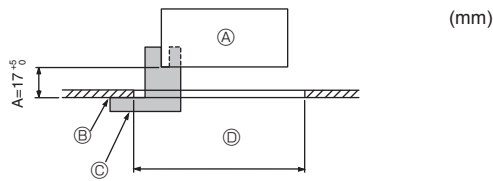
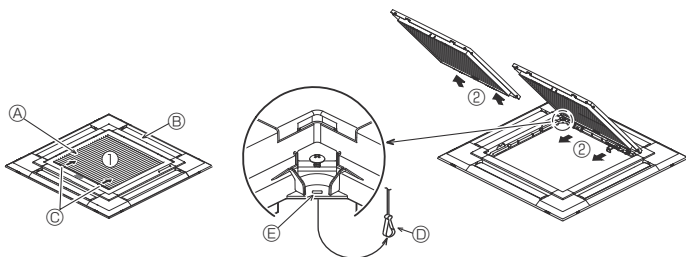
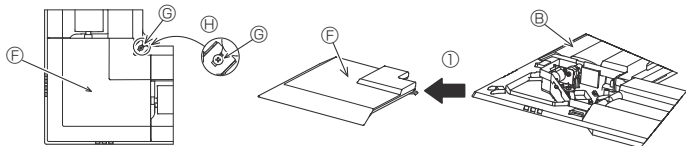

Fig. 7-2
Fig. 7-3
Fig. 7-4
①	Grille	1	950 × 950 (mm)
②	Installation gauge	1	(Divided into 4 parts)
③	Screw (4 × 16)	1	For PLP-6EAE, PLP-6EAE, PLP-6EALME
④	i-see Sensor corner panel	1	For PLP-6EAE, PLP-6EAE, PLP-6EALME
⑤	Wireless remote controller	1	For PLP-6EALM, PLP-6EALME
⑥	Remote controller holder	1	Included when equipped with the wire-less remote controller.
⑦	LR6 AA batteries	2	Included when equipped with the wire-less remote controller.
⑧	3.5 × 16 tapping screws	2	Included when equipped with the wire-less remote controller.
7.2. Preparing to attach the grille (Fig. 7-2)
- With the gauge ② supplied with this kit, adjust and check the positioning of the main unit relative to the ceiling surface. If the main unit is not properly positioned relative to the ceiling surface, it may allow air leaks or cause condensation to collect.
- ① Main unit
- ② Ceiling surface
- ③ Installation gauge ② (inserted into the main unit)
- ④ Ceiling opening dimensions
7.2.1. Removing the intake grille (Fig. 7-3)
- Slide the levers in the direction indicated by the arrows ① to open the intake grille.
- With the intake grille in the "open" position, remove the hinge of the intake grille from the grille as indicated by the arrows ②.
7.2.2. Removing the corner panel (Fig. 7-4)
- Loose the 4 screws on the corner. Slide the corner panel in the direction of the arrow ① in the figure and remove the corner panel.
[Fig. 7-3] [Fig. 7-4]